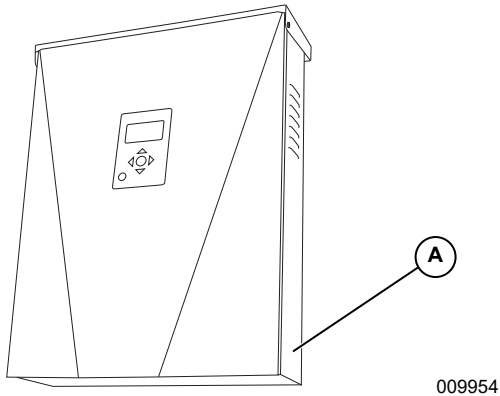

Figure 2-1. Serial Number Location
Refer to **Figure 2-1** to locate unit serial number (A). Record the information from this tag in **Table 1: Generac PWRcell Inverter Important Information** on the inside front cover of this manual. When requesting assistance, you may be asked to provide this information.